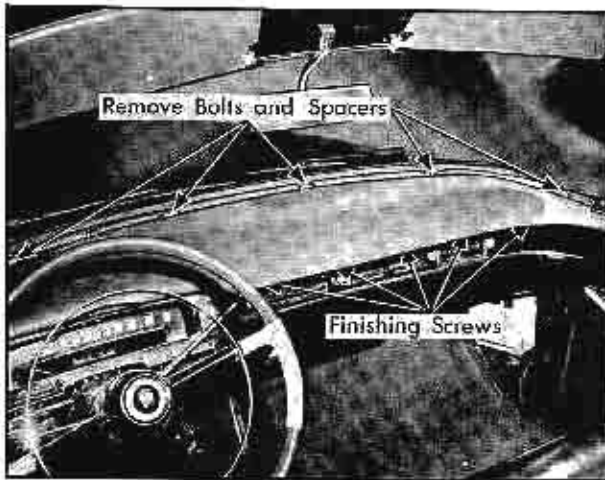

Fig. 3-1 Instrument Panel Upper Section Removal
2. Remove shoulder-head machine screws and spacers from forward edge of instrument panel cover. Fig. 3-1.